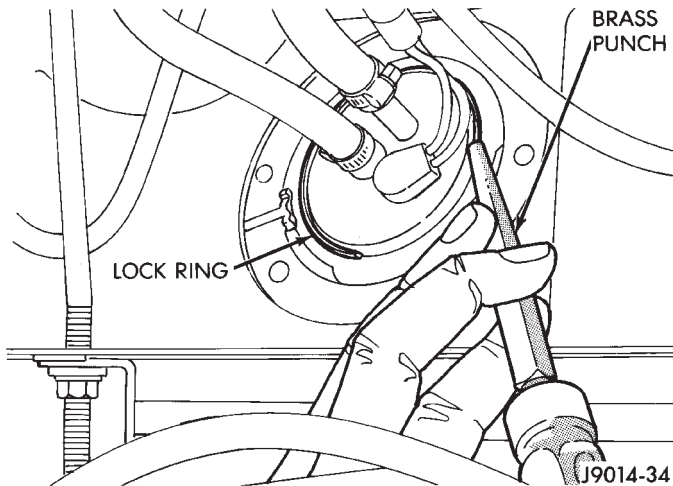

Fig. 1 Removing Lock Ring—XJ Models—Typical
(5) Disconnect fuel vent supply and return tubes from fittings on fuel pump module.
(6) Disconnect fuel pump module electrical harness connector from main harness.
(7) Using a brass punch and hammer, remove fuel pump module lock ring by carefully tapping it counterclockwise (Fig. 1).